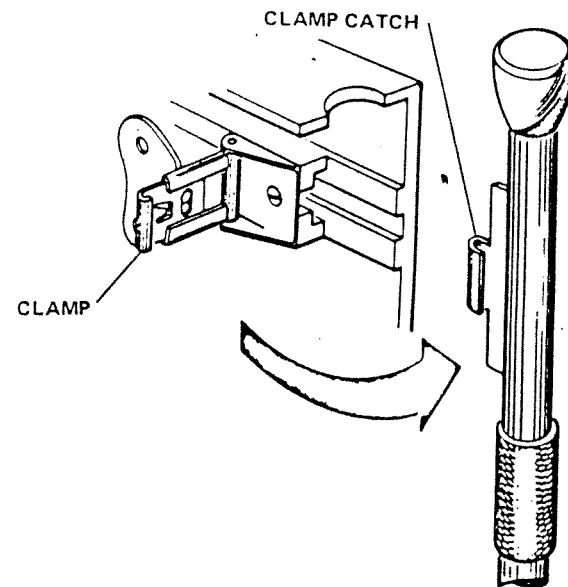

FIGURE 3
(B) With the pedal board in an upside down position, place the pedal board flanges on each side of clamp catch on one front leg. Spread legs slightly and repeat same on other front leg. Make sure that clamp hook and clamp catch hook mate properly and turn wing one half turn clockwise to lock. (See Fig. 3)